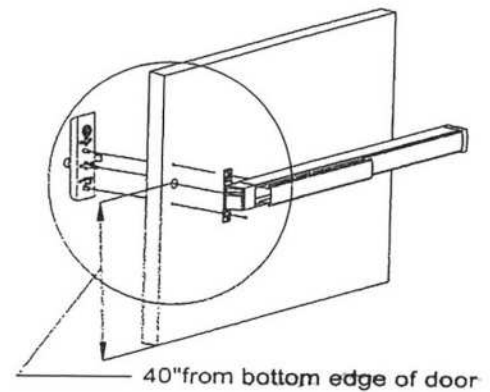
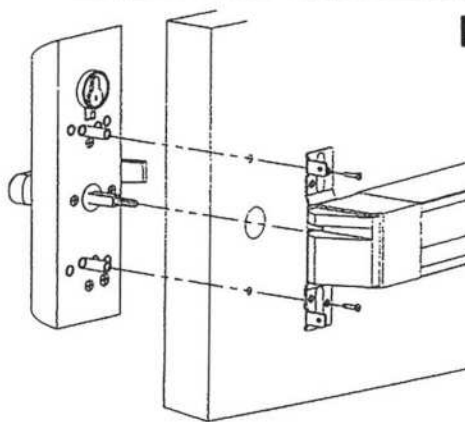

Fig3
Fig4
8. INSERT LEVER ESCUTCHEON TRIM INTO DOOR PREP. (SEE FIGURE 3) AND SECURE TO EXIT DEVICE USING MOUNTING SCREWS (SEE FIGURE 4).